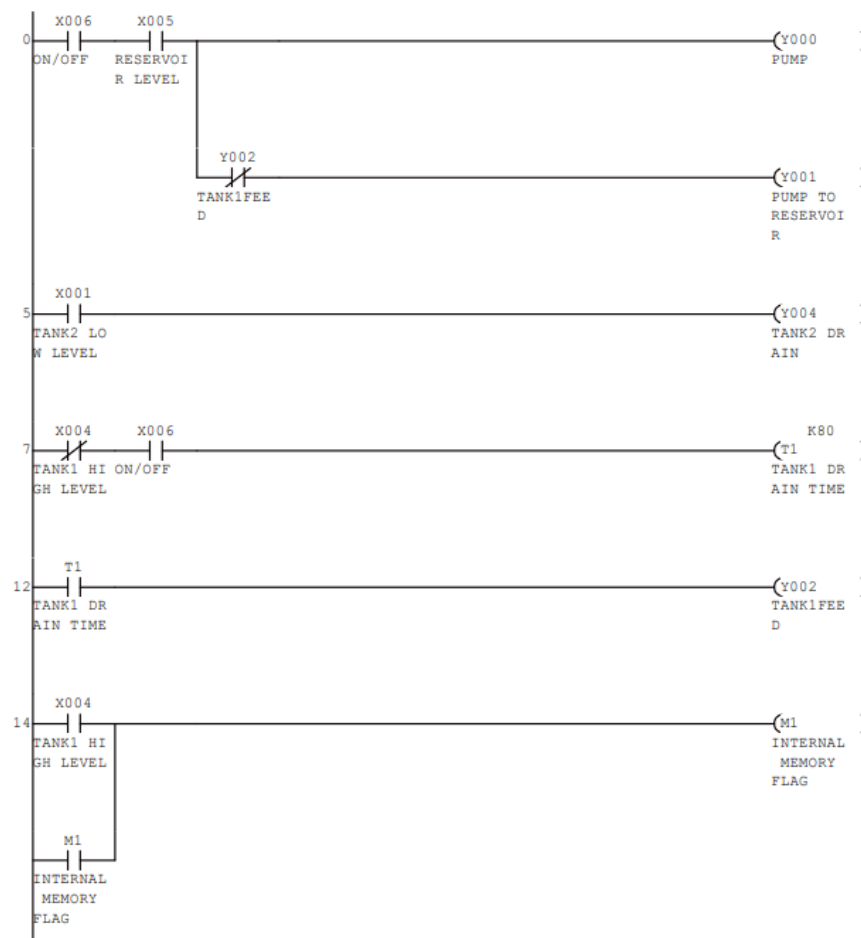

Figure 11: Tank 1 draining example.
5. Review the program, as seen in Figure 11. The function of each rung is outlined below: